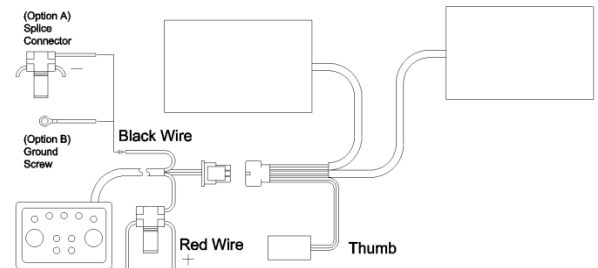

Figure 4: Electrical Schematic
3. Plug the white 6 pin connector from the controller into the white 6 pin from the grips and power port as shown in **Figure 4**.